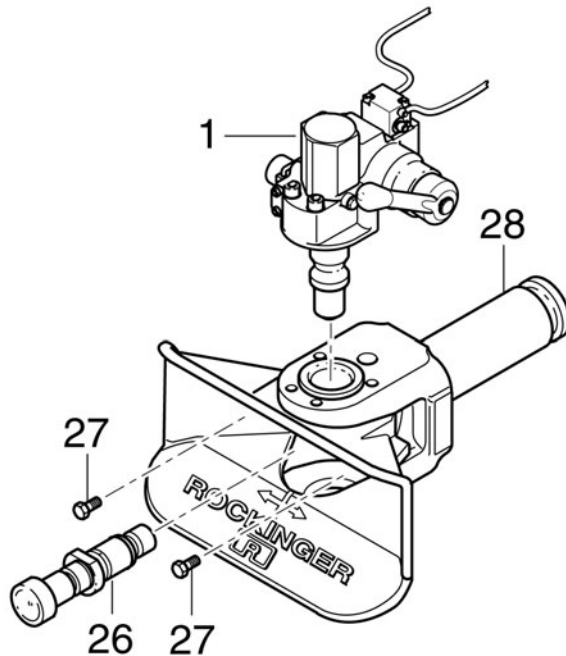

Fig. 7
9. Replacement of the pressure bar (see fig. 7)
- Loose completely the screws M 8 (27) with plug nut for thread M 8 on the pressure bar (26)
- Pressure bar with bearing bush is to be withdrawn from the drawbar shaft (28).